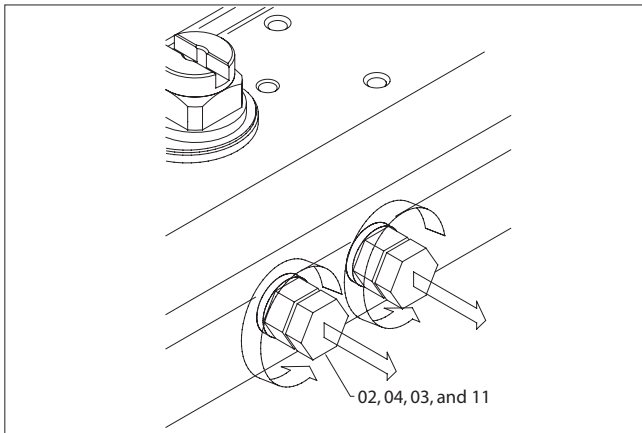

Figure 4.
- B. Lift position indicator (19) off shaft; it may be necessary to pry gently with a screwdriver.
2. Removal of Stop Cap Screws (02), (Figure 4):
- A. Remove both stop cap screws (02) together with nut (04) and washer (03).